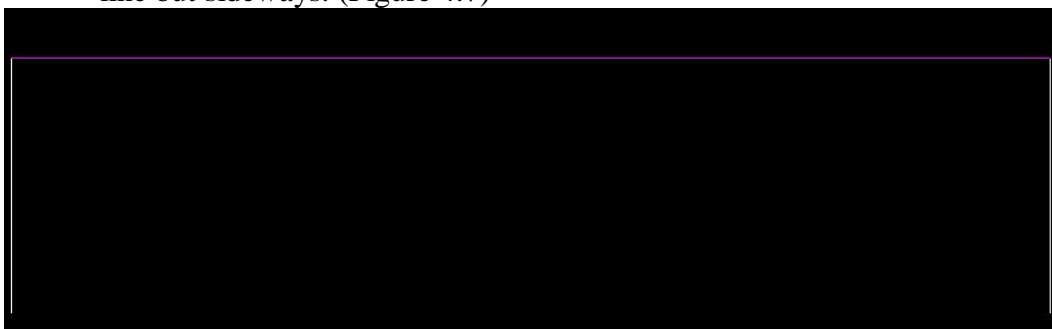

Figure 4.7
2. Click on the “Side View” button on the top menu bar. Now you should see that same line but sideways. (Figure 4.7)